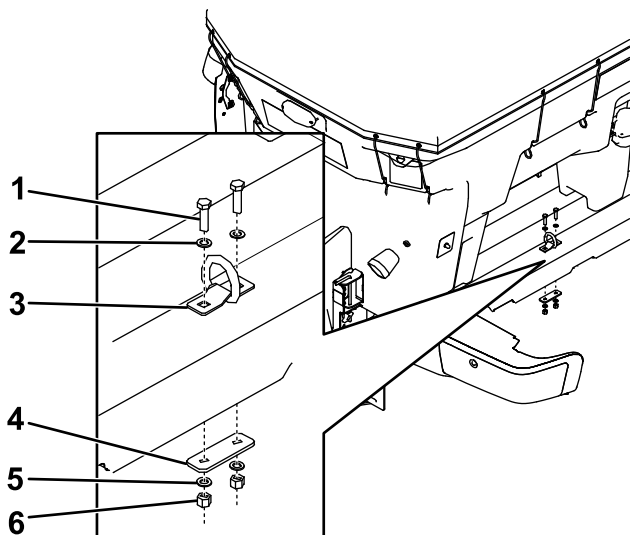

Figure 8
- Install the D-rings as shown in Figure 8 and torque the bolts to 28 N·m (19.7 ft-lb).